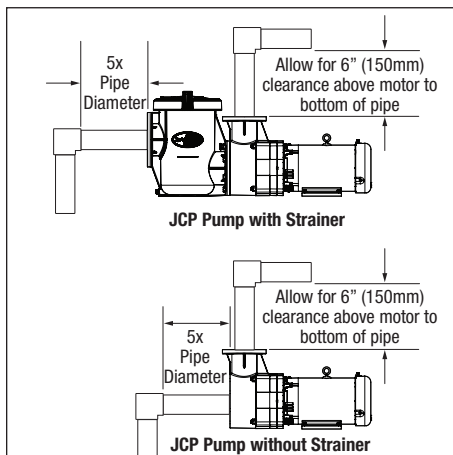

Figure 6. Jandy JCP Pipe Clearance
4. Check that a section of straight pipe, with a length that is five times its diameter, is installed between the suction side of the pump and the first elbow. See *Figure 6*.